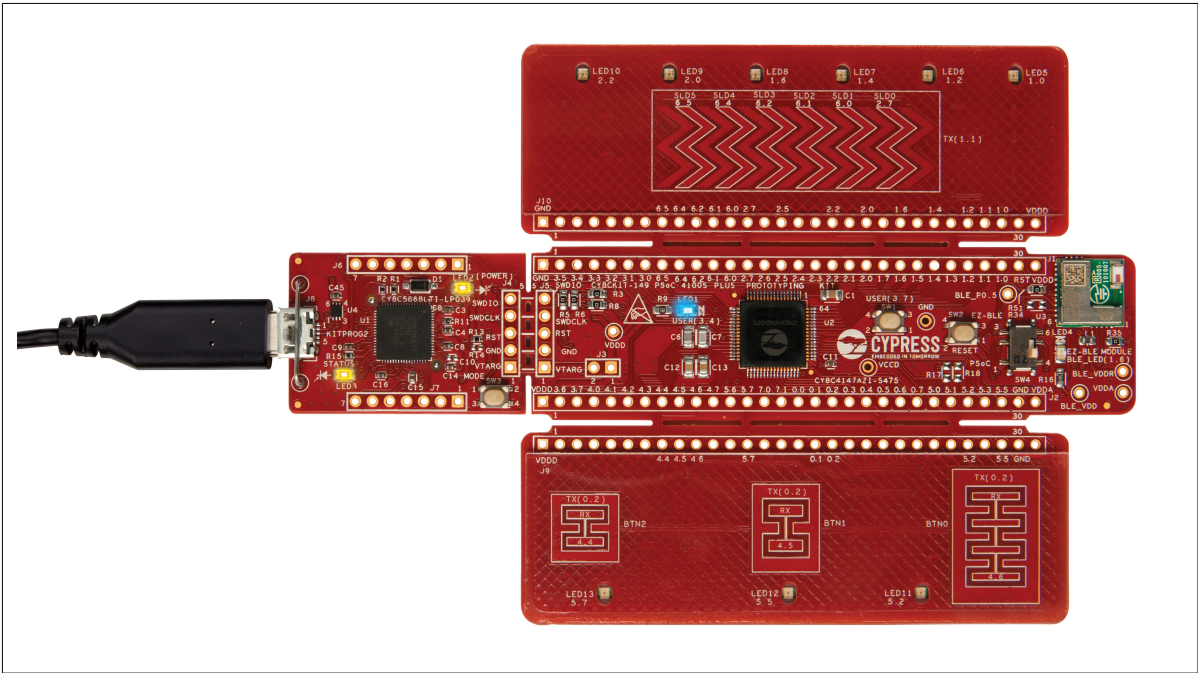

Figure 7 Connect the USB cable to the USB connector on the board
1. Connect the board to the PC using the USB cable through the KitProg3 USB connector, as shown in Figure 7